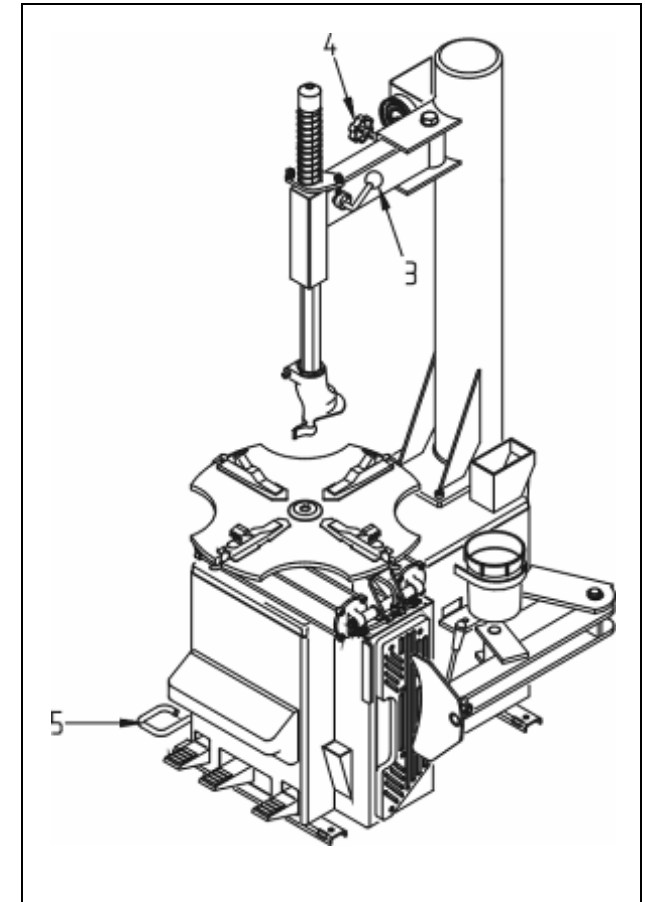

Fig. 7
D. Lower the lock handle to unlock (#3 Fig.7) the vertical slide, lift the handle to lock.
Avant de travailler avec la machine, s'assurer d'avoir bien compris la position et les fonctions des commandes (Fig7).
D. Baisser le levier pour débloquer (#3 Fig.7) et le soulever pour bloquer.
E. Turn the adjustment knob (#4 Fig.7) for positioning mount/demount head according to rim diameter.
F. Press bead seater/inflator pedal on left side of the machine half way down (#5 Fig.7): air will come from inflation hose end only (#2 Fig.7).
G. Press bead-seater pedal down completely and the button (#1 Fig.7) on the Nozzle, to get air blast from the inflator jets (#A Fig.7). Air simultaneously comes out of inflator hose (#2 Fig.7).